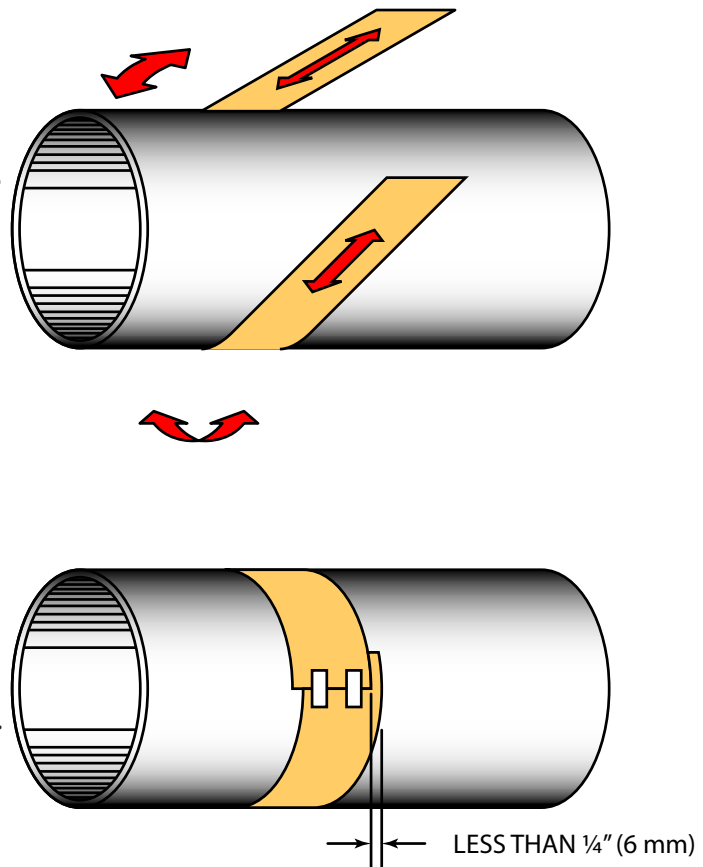

FIGURE 5.8 - PAPER TEMPLATE PLACEMENT
- 1) Wrap the paper around the pipe in the manner shown in **Figure 5.8**. Align the paper ends to within ¼ inch (6 mm).